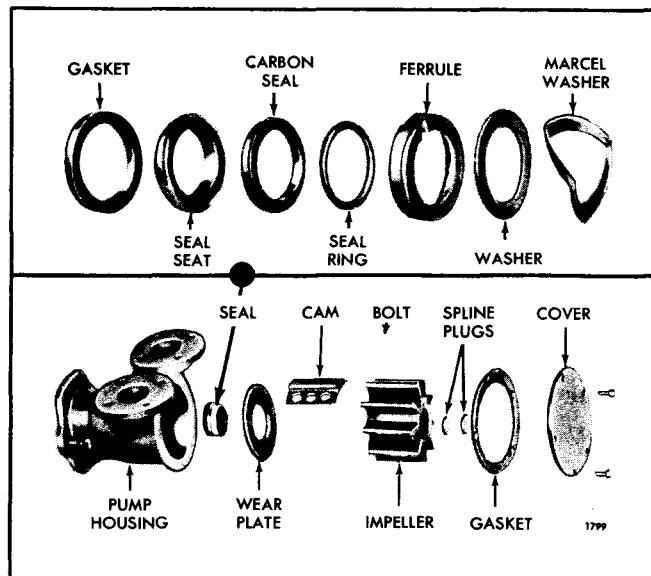

Fig. 18 - Raw Water Pump Details and Relative Location of Parts
The impeller (Fig. 18) is self-lubricated by the water pumped and should be primed before starting the engine.
1. Remove the cover screws and lift the cover and gasket from the housing (Fig. 18). Note the position of the impeller blades to facilitate reassembly.